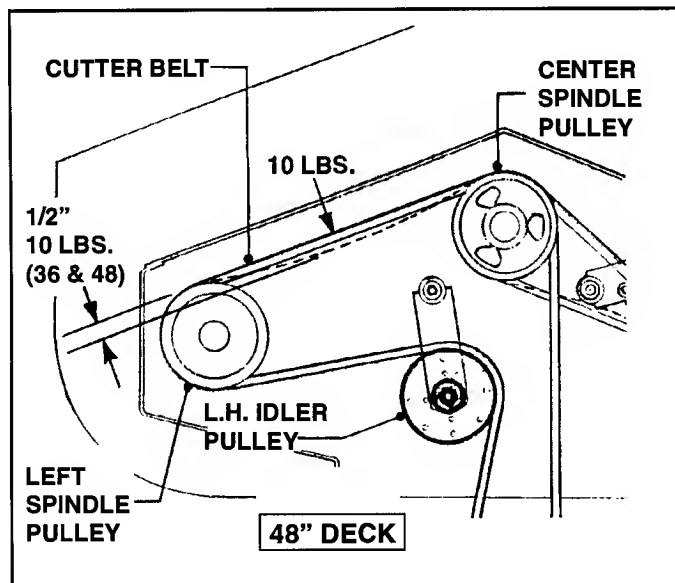

FIGURE 5.10
- B.** Pull Blade Clutch Lever rearward to the **ON** position and check for proper Cutter Deck Belt tension. (With 10 pounds of pressure being applied between the right and left pulleys, the Belt should move 1/2". **DO NOT OVER TENSION BELT!** See Figure 5.10.